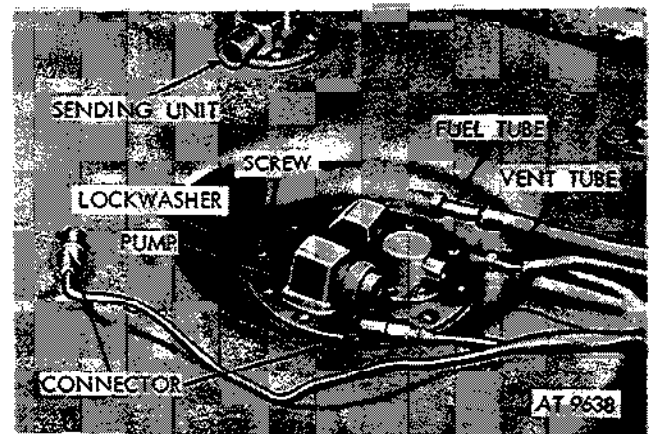

Figure 2-108. Disconnect tubes and connectors from fuel pump (M151, M151A1, M151A1C, and M718).
(1) Remove seats.
(2) Disconnect electrical connectors from fuel pump (M151, M151A1, M151A1C, and M718) and sending unit (fig. 2-108). Disconnect fuel and vent tubes. Remove ten screws and lockwashers securing fuel pump (M151, M151A1, M151A1C, and M718) or fuel tank cover (M151A2, M825, and M718A1) to fuel tank.
(4) Disconnect electrical connectors at fuel level sending unit and fuel pump on M151, M151A1, M151A1C and M718 (fig. 2-108). Disconnect fuel lines and vent line at tank connecting points.
(2) Connect fuel line and vent line. Connect electrical connector at fuel level sending unit and fuel pump on M151, M151A1, M151A1C and M718 (fig. 2-108).
(3) Replace driver's seat.
(4) Replace drain plug.
a. *General.* Figure 2-108, 2-118, and 2-119 show the fuel and fuel ventilation tubes, hoses, and connections in the engine and passenger compartments.